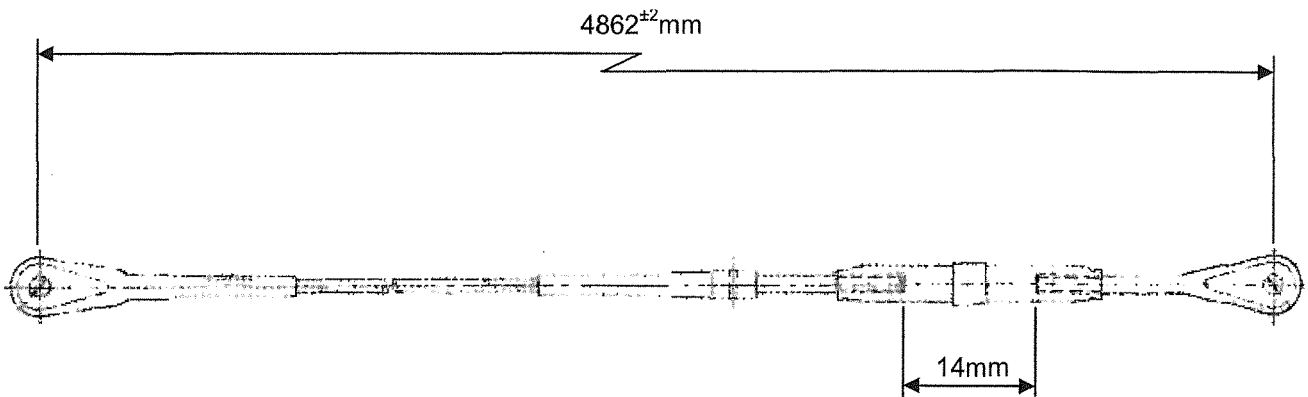

FIGURE 8
17. This paragraph is not applicable to aircraft with Post Mod M945 "Introduction of ISA +35°C Fuel System Improvements" incorporated. Ensure fuel pipe to rudder pedal slider clearance is met; refer T67M260 Maintenance Manual Paragraph, 5.6.5.1, the minimum acceptable clearance is now to be 5mm. If clearance cannot be achieved then; i) remove Rudder Cable and check length, length should be 4862 ± 2 mm, Figure 8 refers; ii) additionally check condition of rudder pedal assembly, refer paragraph 3.